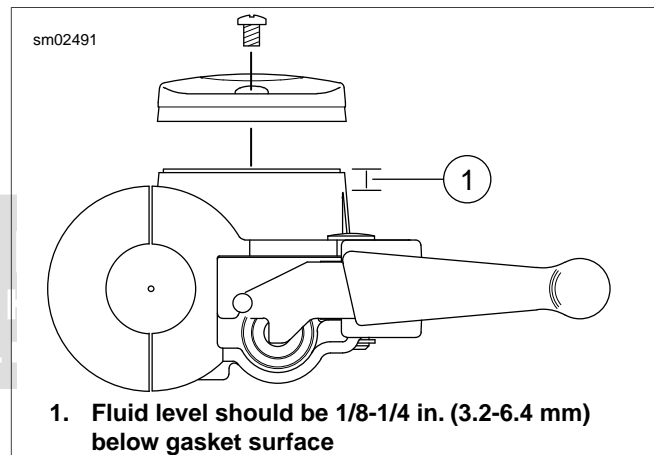

Figure 1-7. Front Brake Master Cylinder Reservoir
2. See Figure 1-7. Check level in front brake master cylinder reservoir. Level should be $1/4 \pm 1/8$ in. (6.35 ± 3.18 mm) below the gasket surface.